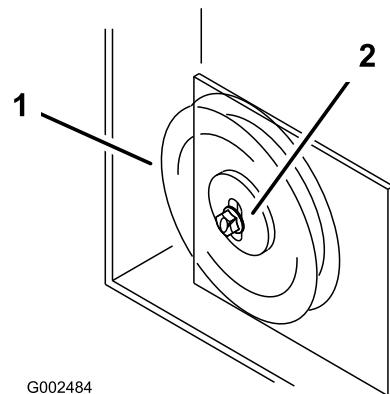

Figure 59
11. If the mower idler plate contacts the end of the adjustment slot and more belt tension is required, a small change to the right side fixed idler can create more belt tension adjustment (Figure 59).